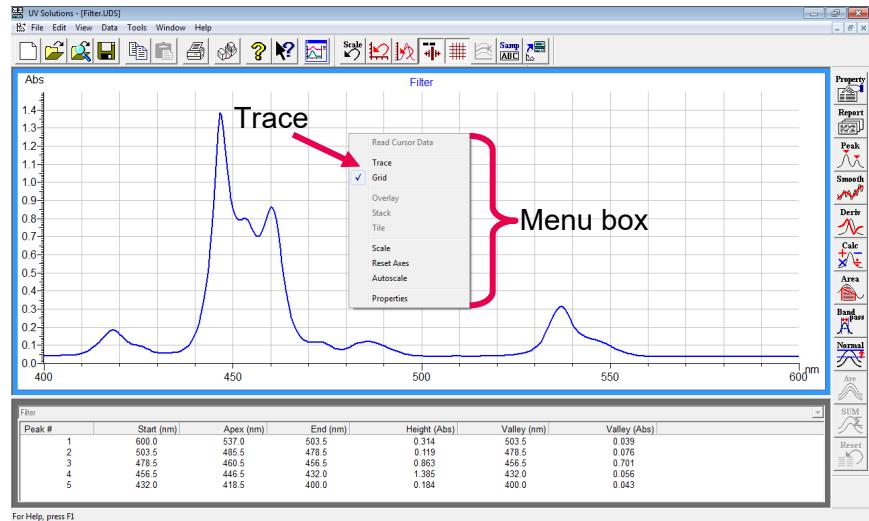

Fig. 5-4
- (2) Bring the mouse pointer onto the displayed spectrum and right-click the mouse. A menu box as shown in Fig. 5-4 will appear. Select “Trace” from the menu box.